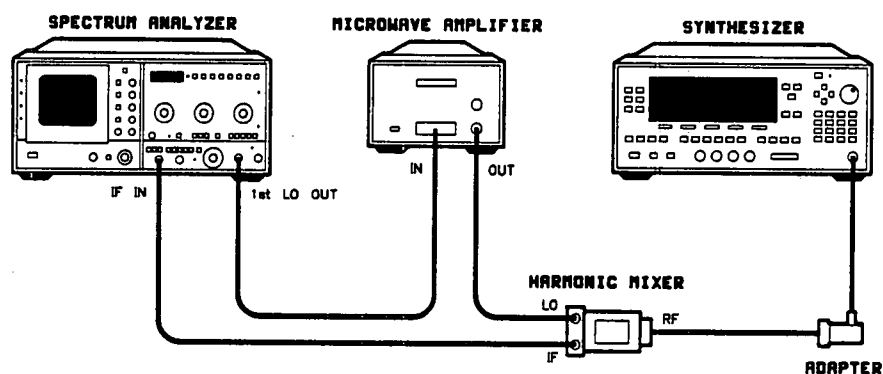

Figure 2-10. Spurious Signals (Harmonics) Test Setup > 20 GHz
9. Connect the equipment as shown in figure 2-10 using the HP 11970K Mixer (20 to 26.6 GHz).